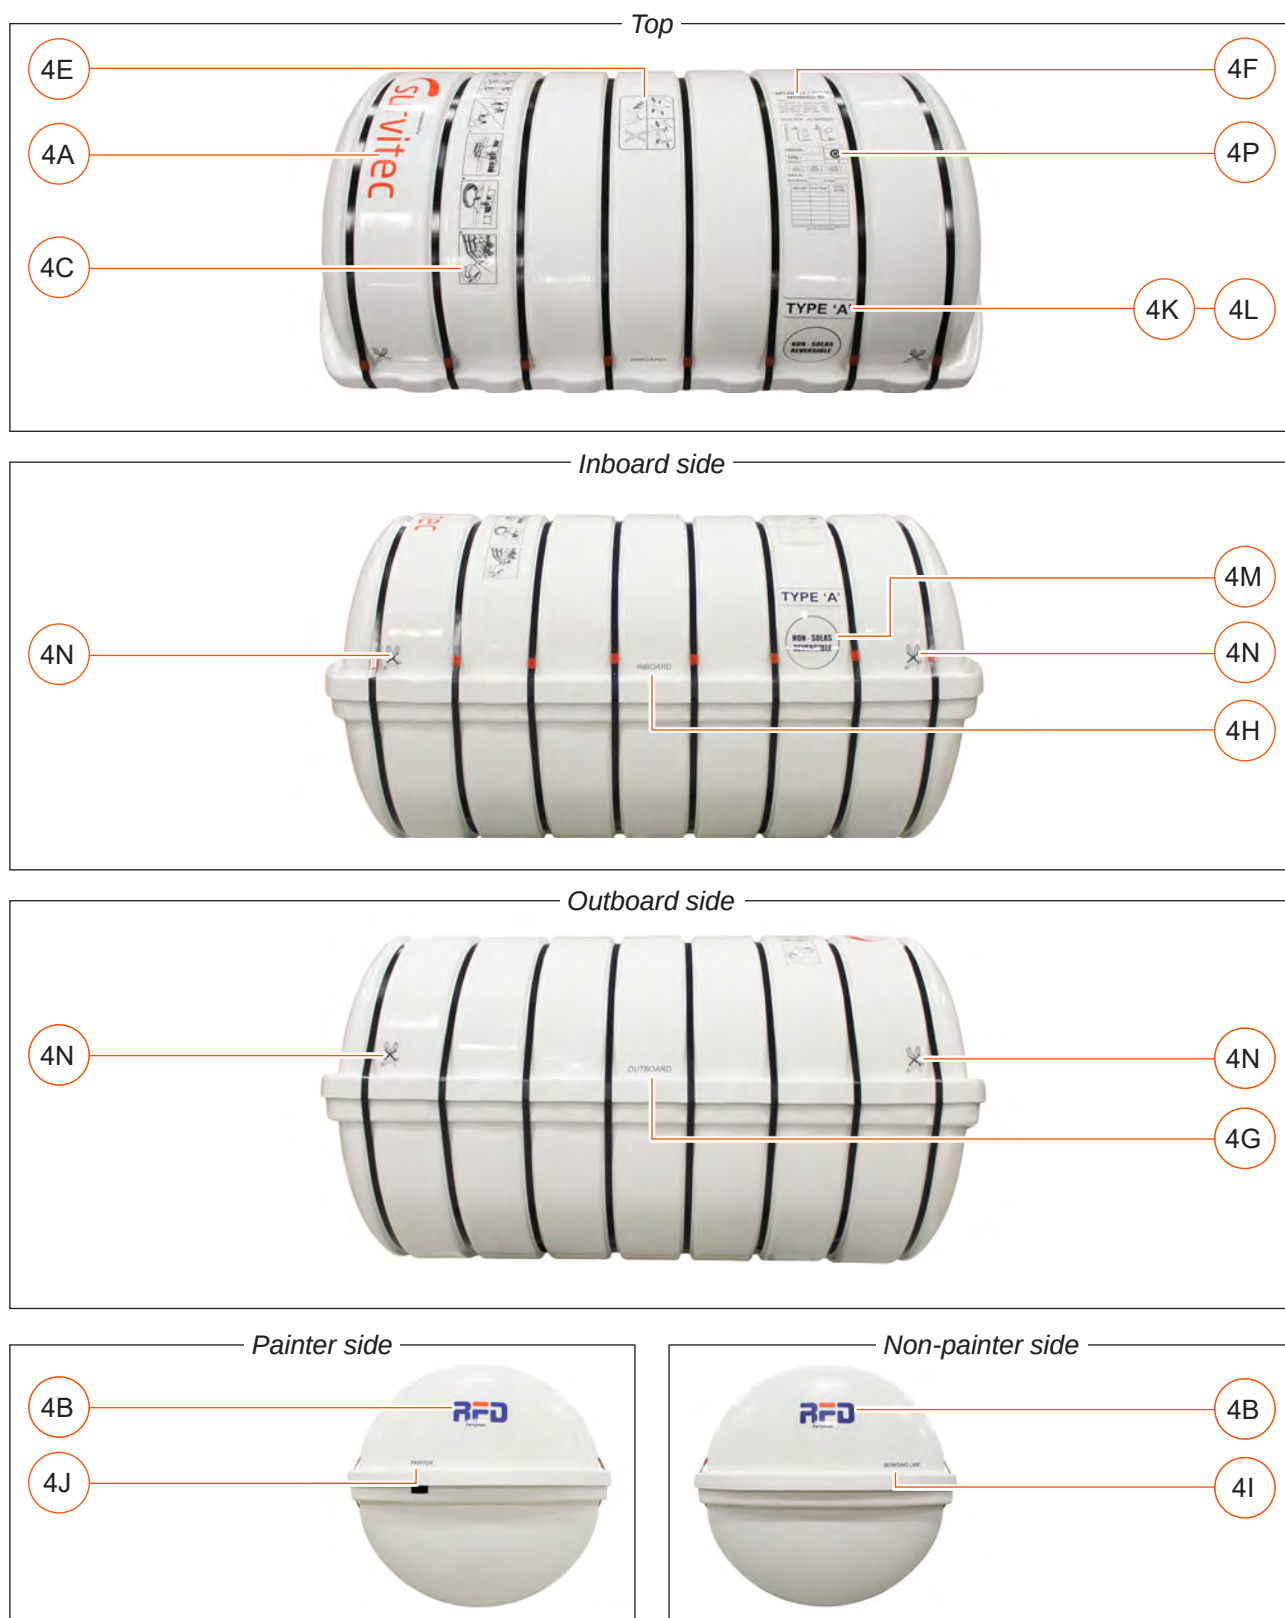

Figure 32
- Mk 14 size 17. Refer to **Figure 32** for label positions.